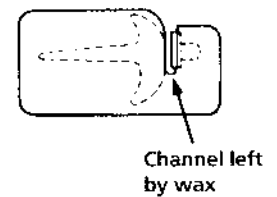

Fig. 8
- When the investment has set, boil out, flux lightly and trim the investment block as small as possible (Fig. 8). Dry out completely in a burnout furnace at 1200°F (650°C).